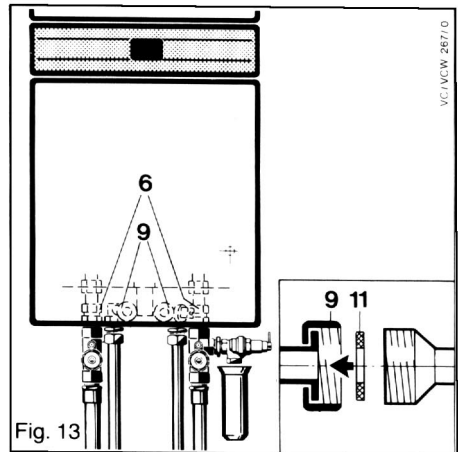
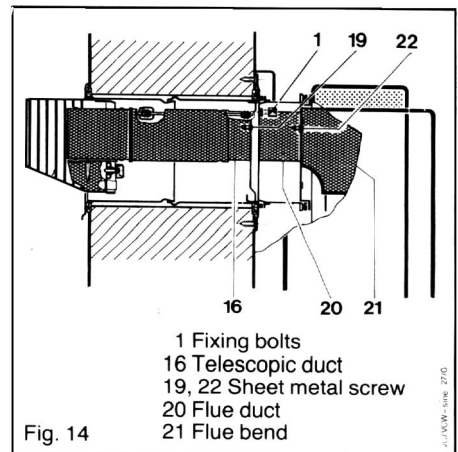

Fig. 13
Fig. 14
Insert the appliance with the connection tubes downward into the compression unions of the service cocks and hang it on to the threaded bolts of the wall case (1), fig. 14. Fasten nuts, compression unions (6, fig. 13) and union nuts (9, fig. 13) using the attached washers (11, fig. 13).